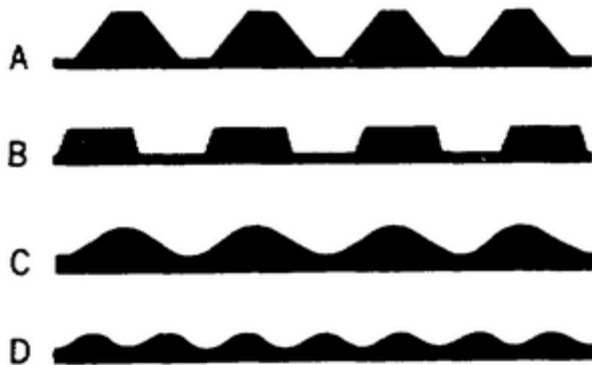

Figure 41. Rubber seals.
5-21. A solid rubber seal is used to make a waterproof joint where ribbed panels overlap a smooth surface. Figure 41 (A, B, C, and D) shows the shape of the rubber seals used with roof and wall galvanized sheet metal panels (A), aluminum ribbed panels (B), asbestos-cement panels (C), and corrugated glass panels (D). The seals are placed under the panel to prevent moisture from getting between the panel and the smooth surface.